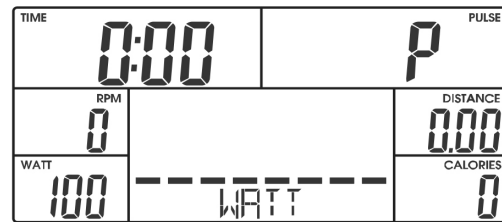

Figure 28
- (3) Enter the target value in Watt with +/- buttons and confirm with MODE (figure 28).